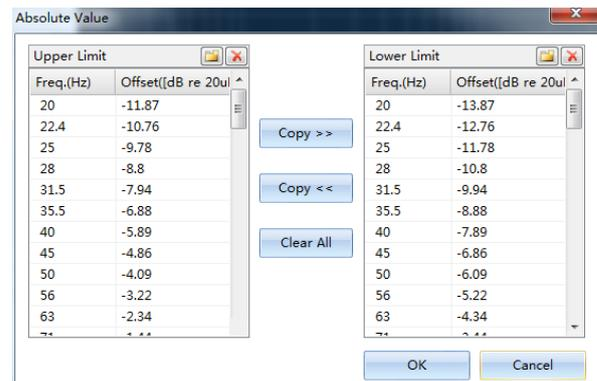

Figure 4.42 Absolute Value Setup
- Absolute Value: as shown in Figure 4.42, the list of frequency points shows the offset values of current curves limits. The user double clicks to input the offset of each frequency point manually.
- (5) Manual Drawing and Sorting Curve limits: